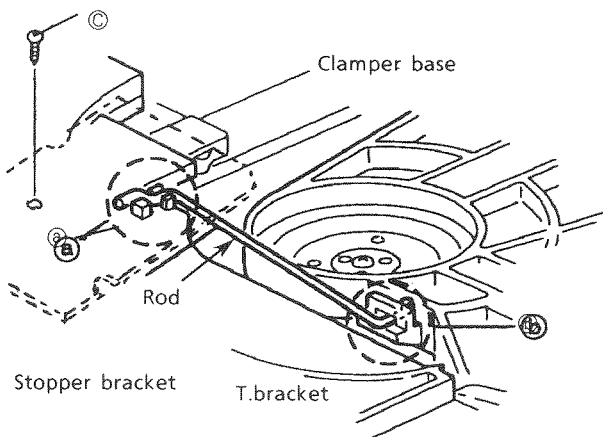

Fig. 27
2. Remove the screw ③ holding the stopper bracket.(See Fig.27) --- (U.S.A only)
3. Remove the rod from both ends' hooks which are secured on T.Bracket ② and clamber base ①. [See Fig. 27)